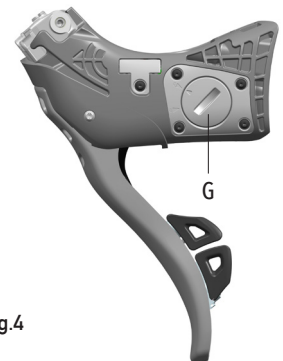

Fig.4
- G - Battery compartment (Fig.4)